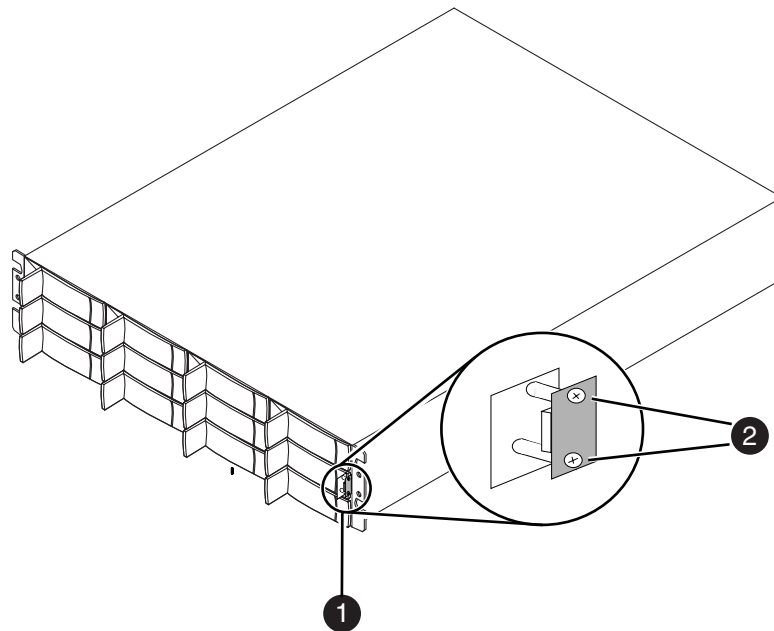

Figure 87. Removing the LED board
2. Pull the chassis out from the rack as far as necessary to access the mounting screws that secure the LED board. See Figure 87.